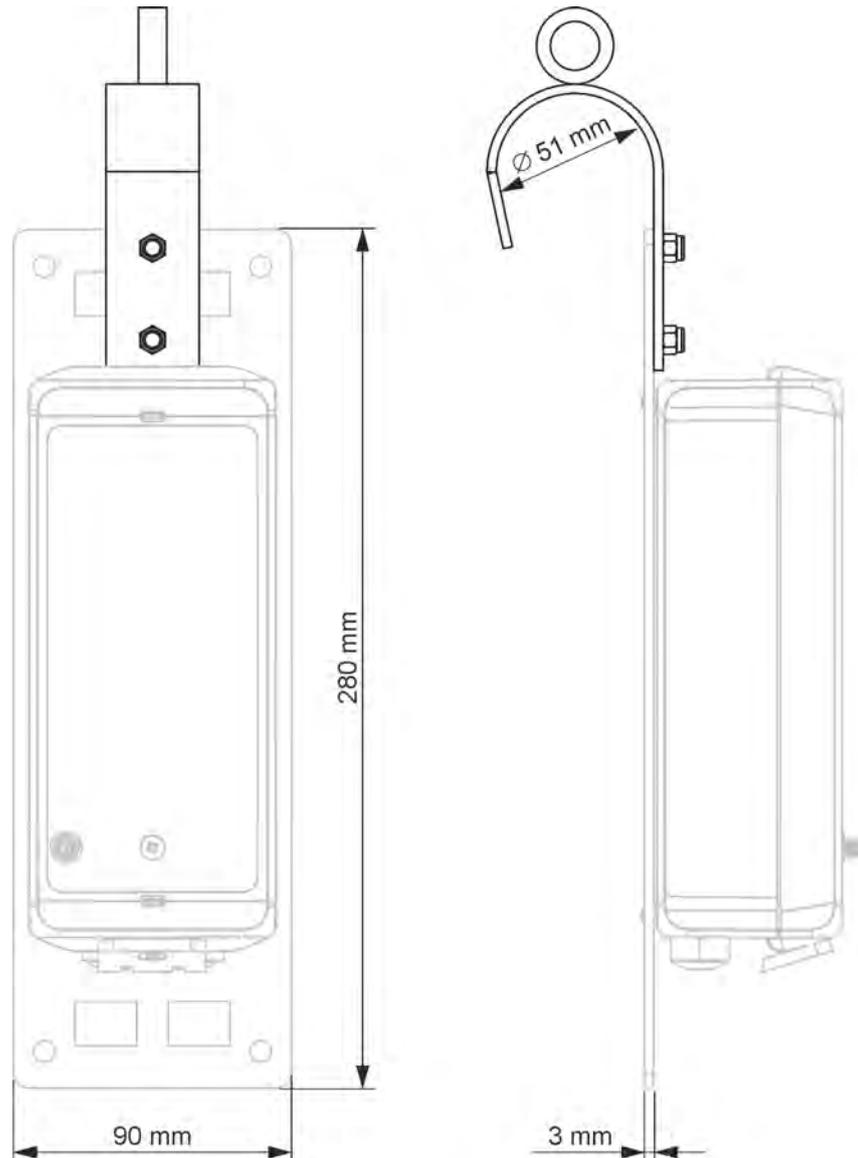

Fig. 23-3 Fastening with bracket on step iron
- Enclosure rear panel mounted on a mounting plate (3 mm thick) with bracket for hanging on the step iron in a shaft (see Fig. 23-3)
5. Screw the enclosure to the wall or fasten the data logger to the mounting plate (if necessary, also the bracket; Fig. 23-3).